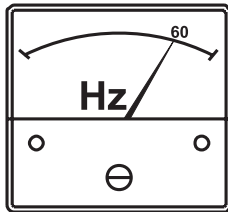

Figure 51. Frequency Meter
5. The generator's **frequency meter** (Figure 51) should be displaying the 60-cycle output frequency in **HERTZ**.